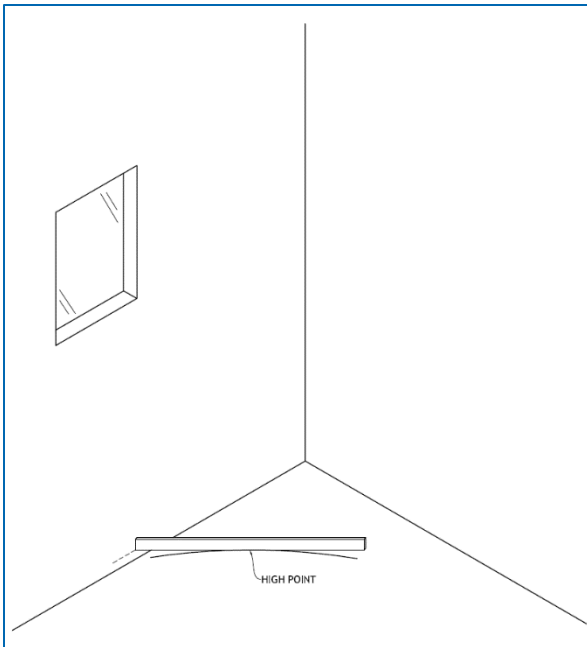

Figure 2
- Find the high point on the floor (*figure 2*)